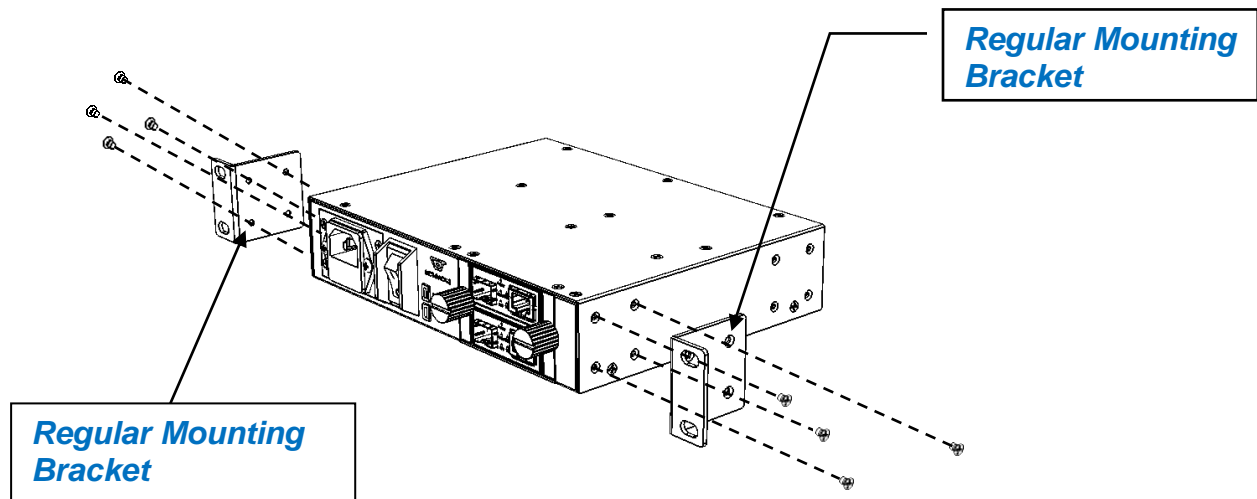

Figure 2-6. Chassis Mounting in 10-inch Rack
- 1.1. Attach the supplied regular mounting bracket to one side of the chassis that you would like to install in the rack. (See Figure 2-6)
- 1.2. Attach the supplied regular mounting bracket to the other side of the chassis. (See Figure 2-6)
Step 2. Insert the screws provided in the rack-mount kit through each bracket and into the bracket mounting holes in the chassis. (See Figure 2-6)